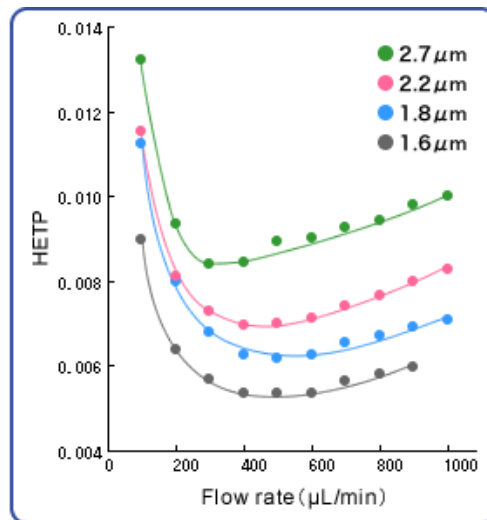

Fig.1 : Van Deemter curve at each particle size
1. The column joint is of the male nut type for tubing of 1/16 inch OD. Check that the tubing joints of the system fit correctly and that the ferrule tips are deeply inserted into the joints. (See Fig. 1.)